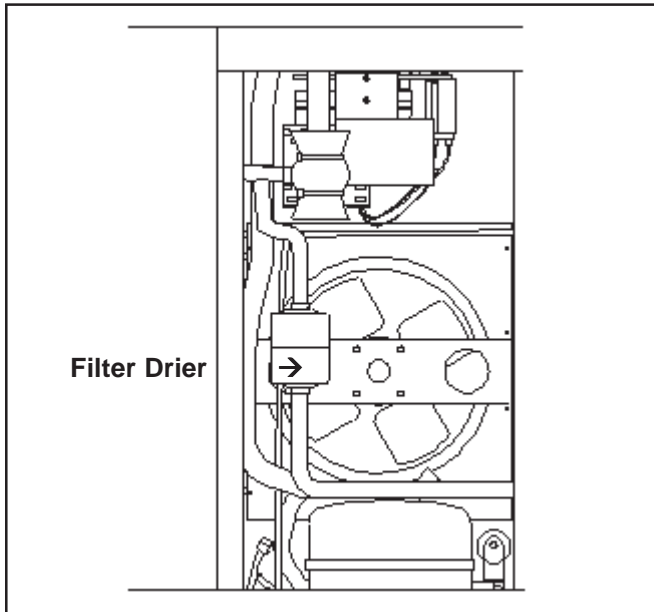

Figure 46. Remove Filter Drier
10. Leaving a port open to prevent pressure build-up, remove the filter drier and install a new filter drier using the appropriate brazing material (Fig.46).